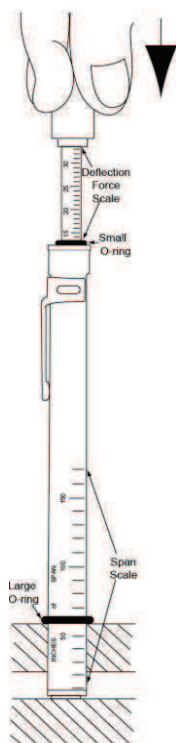

FIGURE 38 - BELT TENSIONING GAUGE
2. Position bottom of the large O-ring on the span scale at the measured belt span as shown in *Figure 38* on page 53.